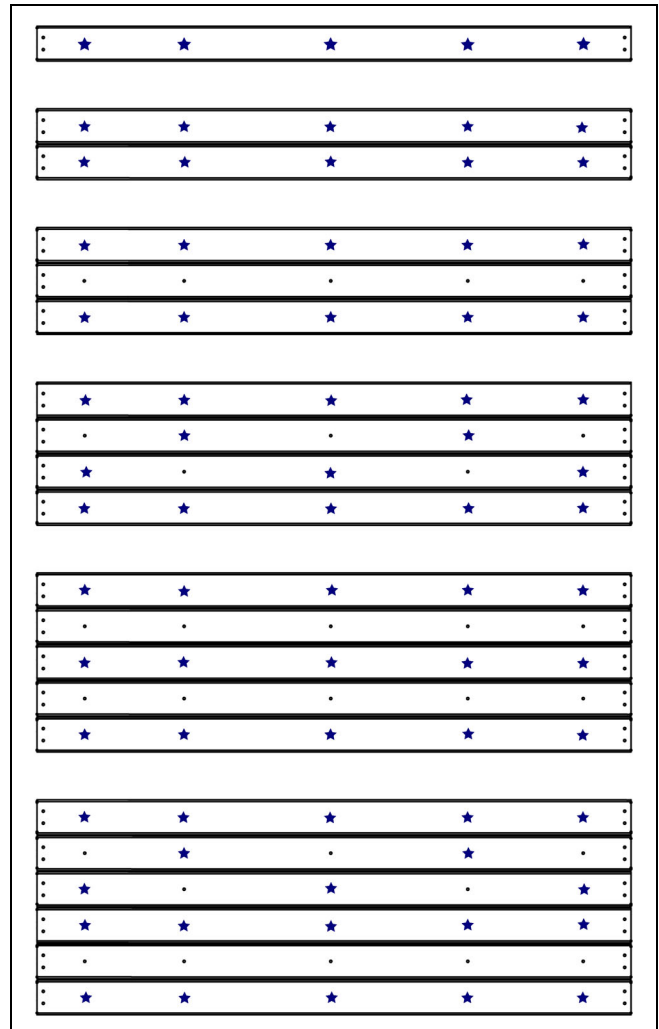
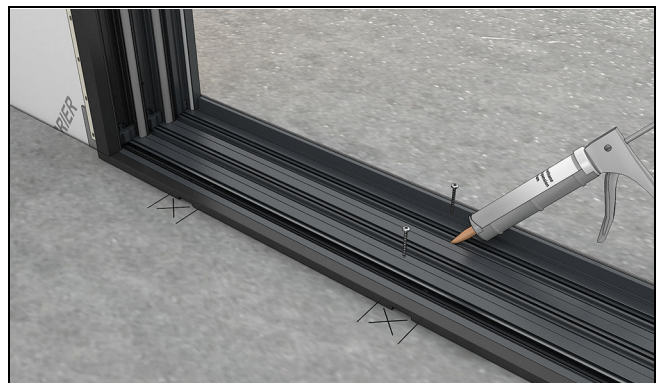

Figure 54 Place fasteners through Head Jamb, Sill, and Jamb at locations indicated by the star shapes above.
Figure 67
4. Use the chart below to determine proper fastener placement depending on configuration (number of tracks). See Figure 54.
6. Install the remaining screws into the sill. (not provided on performance or flush sills). Fasten HP sills at 10" (254) on center. All other sills, fasten at 20" (508). See Figure 67. See Figure 54 previously for screw placement.